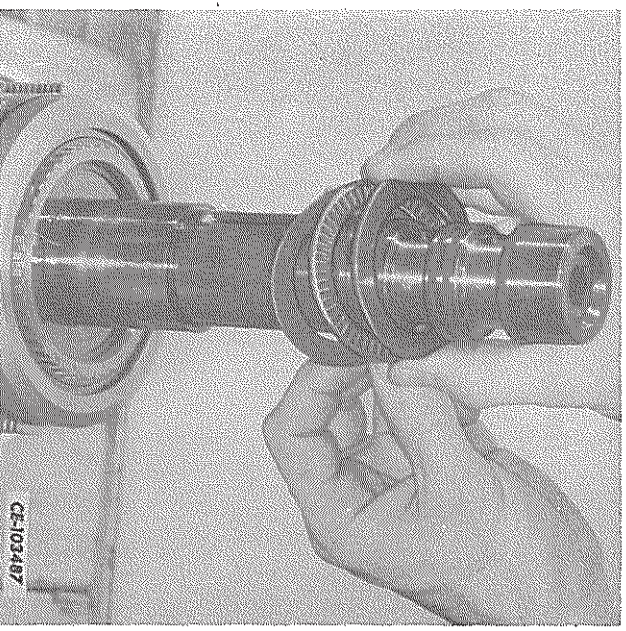

FIG. 46 — Removing the Thrust Washers and Thrust Bearing
34. Remove the two bearing spacers and the thrust bearing from the shaft (Fig. 46).